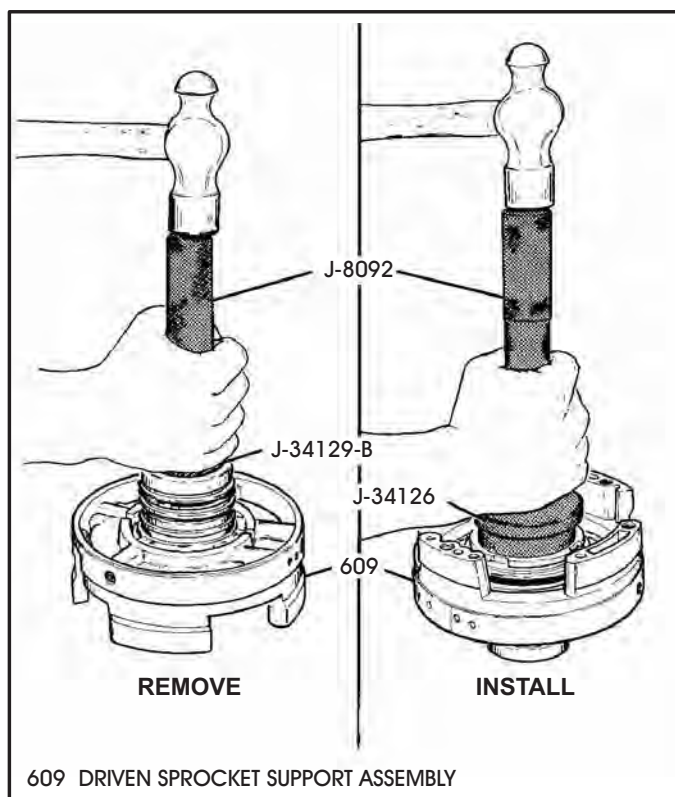

Figure 135
6. If it becomes necessary to replace the driven sprocket support caged needle bearing, use the tools and drivers illustrated in Figure 135 to remove and install the bearing.